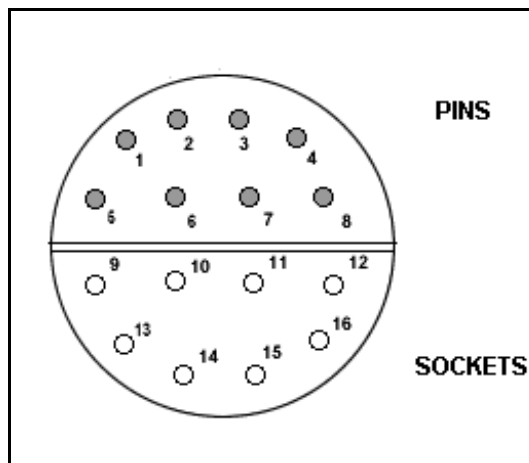

Figure 7.1 Lemo pin positions
- 1 With the electronics cartridge removed, make the following meter checks at the Lemo connection at the bottom of the electronics assembly. Use a standard Multimeter and not a high voltage Megohm Meter for these tests. See Figure 7.1 below for pin position.